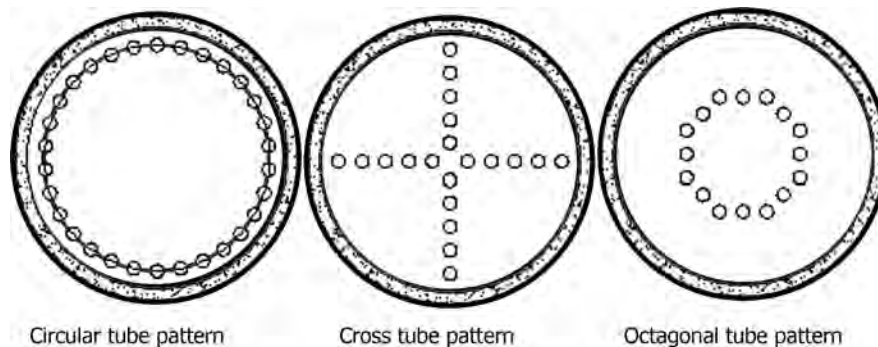

FIGURE 14.2 Tube arrangements in small cylindrical fired heaters.
- Figure 14.2 shows these arrangements.